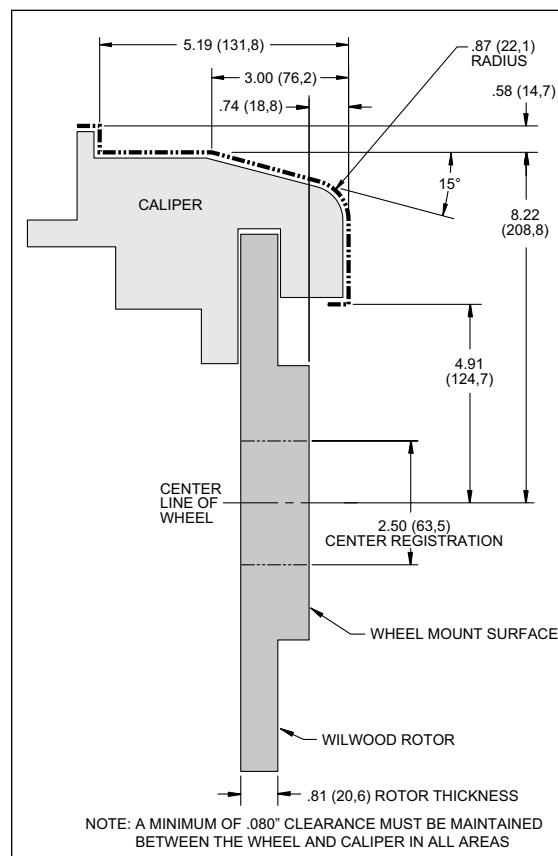

Figure 3. Wheel Clearance Diagram
- Review the wheel clearance diagram (Figure 3, page 3) to verify that there is adequate clearance with the wheels you will be using with the installation.
• Verify your wheel clearance using Figure 3.